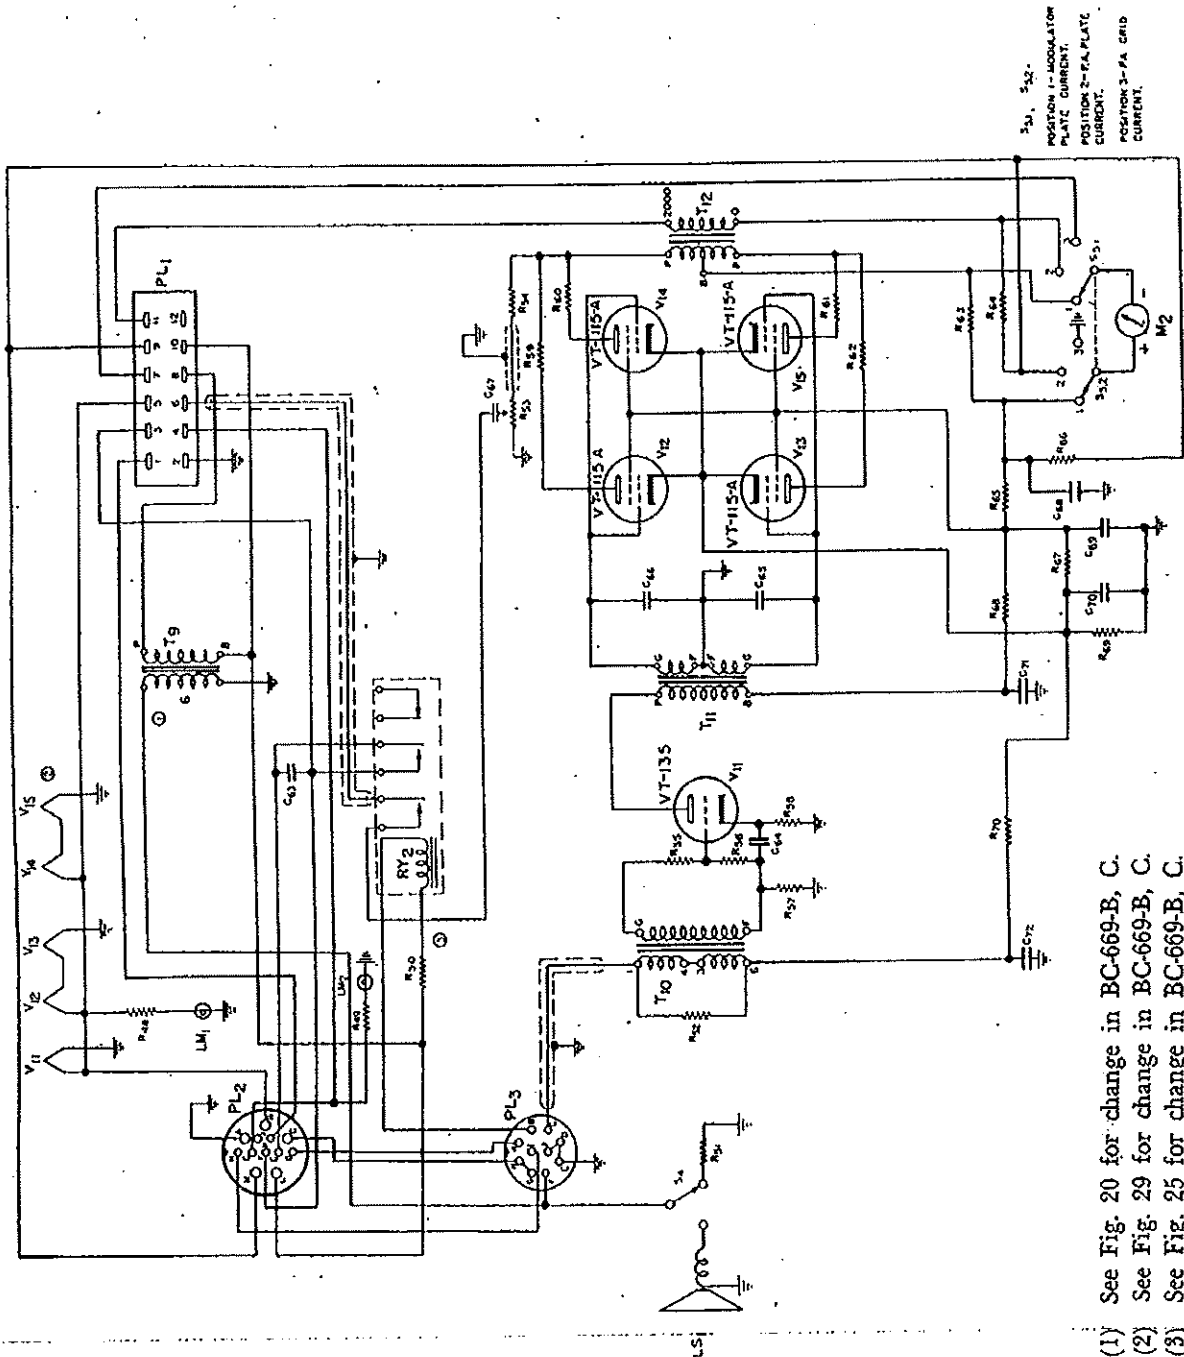

Fig. 18 - Radio Receiver and Transmitter BC-669-A, Schematic Diagram of Modulator Section.
- (3) Modulator driver tube V_{11} is a Tube VT-135 (commercial type 12J5-GT). The function of this tube is to amplify low-level microphone voltage and provide a sufficiently large voltage swing to drive the modulator power stage. (See figure 18.)
- (4) Modulator tubes V_{12} , V_{13} , V_{14} and V_{16} are each a Tube VT-115-A (commercial type 6L6-G) which operate in push-pull parallel as a Class AB_1 audio frequency power amplifier.